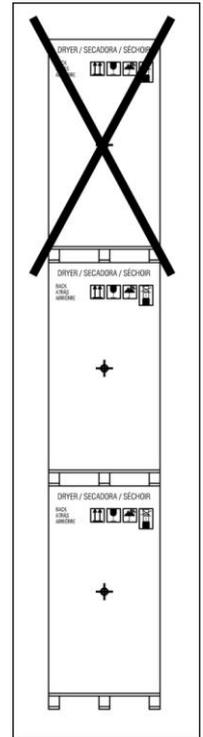

Fig. 2.3
- The maximum quantity of machines that can be stacked is one unit. (Fig. 2.3).
See Figures 2.3 and 2.5.